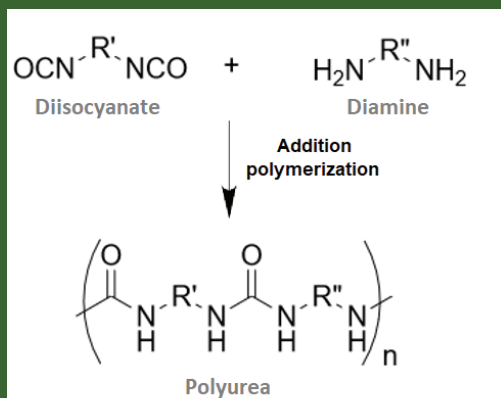

FIGURE 1: SYNTHETIC PATHWAY TO PREPARE LINEAR POLYUREAS.
Polyurea grease thickeners offer a significant advancement over traditional metallic soap thickeners employed in grease formulations. As depicted in Figure 1, these polyurea thickeners are the product of an addition polymerization reaction between diisocyanates and diamines. Polyurea based greases are heavily used in industrial rolling-element bearing, automotive constant velocity (CV) joints, and sealed for life applications.